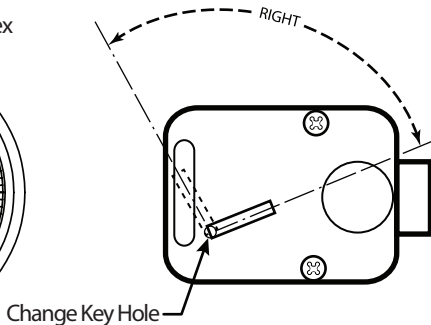

Figure 3.
3. Insert the change key into the change key hole. (Figure 3.)